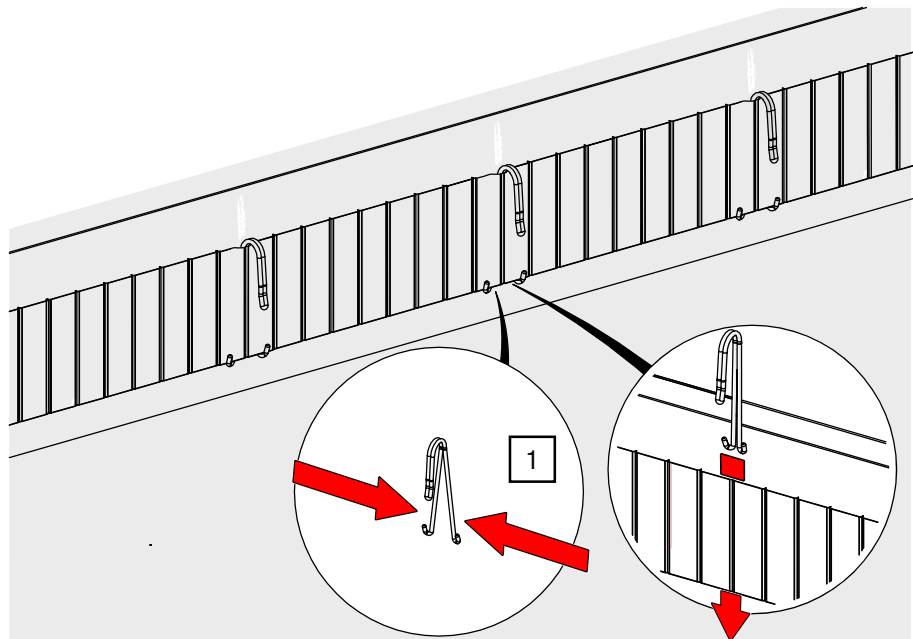

Fig. 111: Outer layers – Insert curtain hook into pleating tape
1. Press the hook together and push one foot through a loop of the pleating tape until the feet hook onto the opposite side (see Fig. 111).